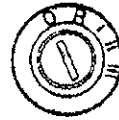
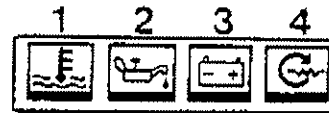

Fig. 43. Key switch on instrument panel, TAMD60, TAMD70
Fig. 44. Warning lamps on instrument panel, TAMD60, TAMD70
5. **TAMD60, TAMD70:** Turn the key switch to running position-I, fig. 43. Check that the warning lamps for coolant temperature (1, fig. 44), oil pressure (2) and charging (3) are alight.